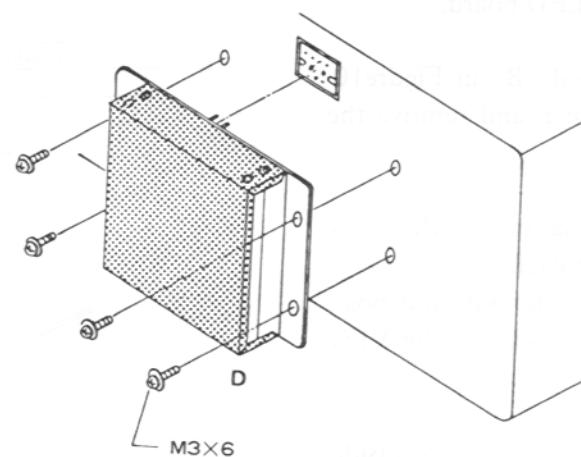

Figure 8
- (4) Install the DC-DC converter module as shown in Figure 8. Use the four screws supplied with the kit. Do not force the plug into the socket, as the connection should be smooth, yet solid.
- (5) Check the DC cable fuse socket, located in the positive (red) lead, to be certain that a 20 amp fuse is installed.